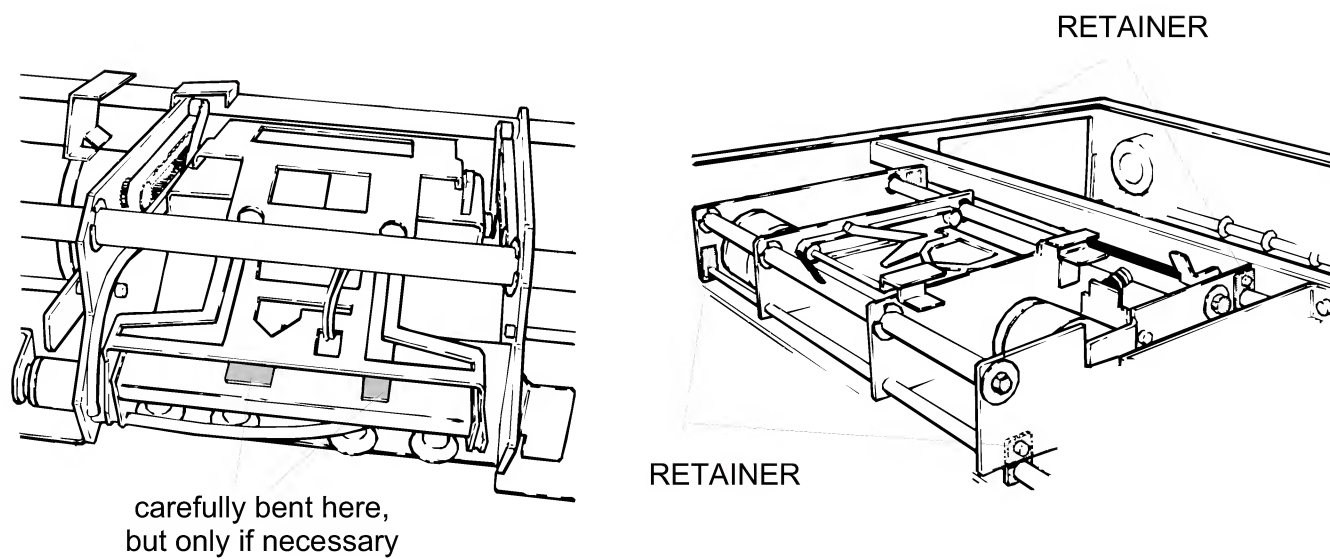

figure 3-10
7. If it is not possible to reach the 18 mm, bend the parts shown up or down as required. See figure 3-10 on the next page.